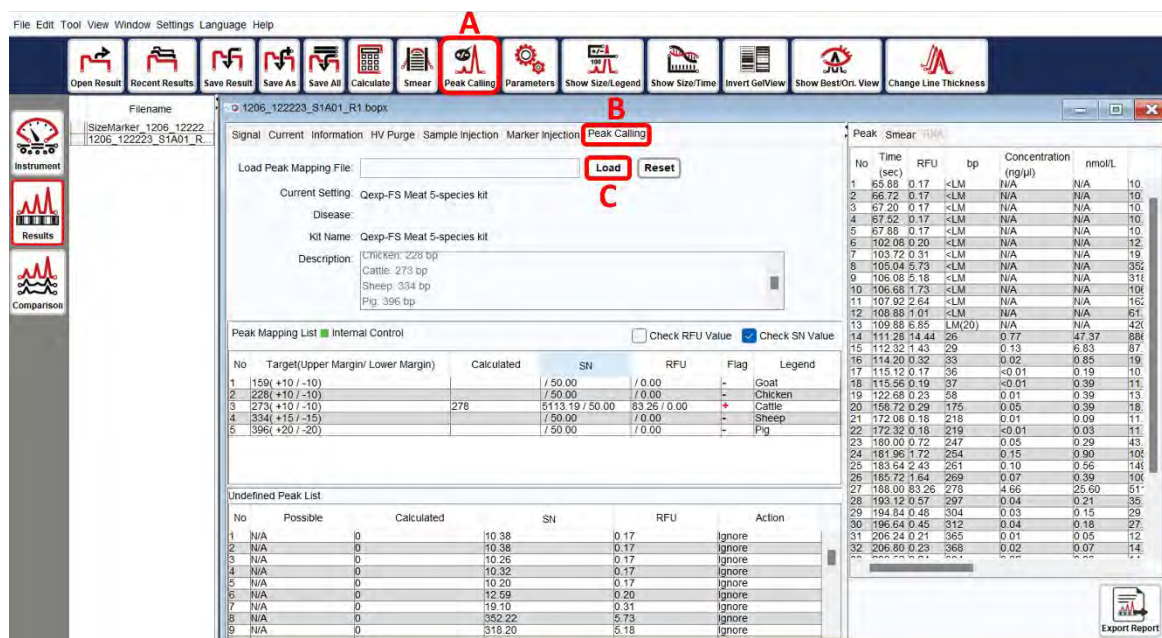

Figure 51 Fragment Size Calculation and Peak Calling Selection
4. Return to the result files, calculate the fragment size, and select the **Peak calling** tab or click **Tool** → **Peak Calling** (Figure 51 A-B).
5. Browse and load the desired Peak Calling Table file (Figure 51 C).